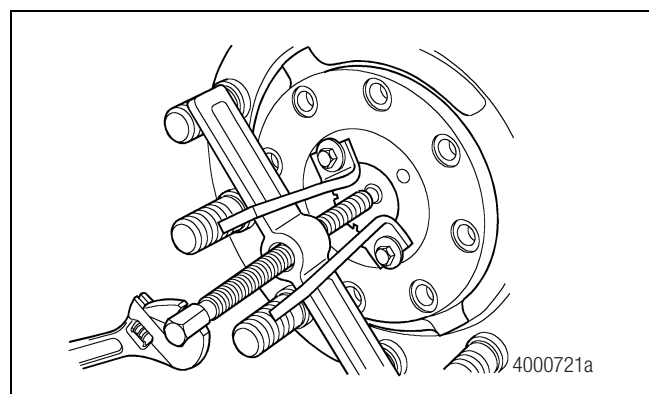

Figure 4.2
7. If necessary, remove the hubcap. Use a puller to remove the drive flange. Figure 4.2.